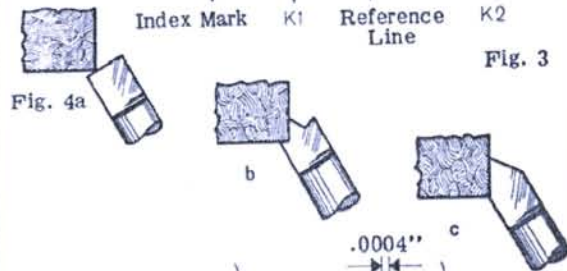

Fig. 4a
7. During grinding slowly return stop screw G to advance the work fixture past the wheel; at the same time continuously rotate the collet bearing back and forth between the stops, the rotation being through 180°. This ensures uniform stock removal (see Figs. 4a, b, c). Uniform stock removal will protect the cutter from overheating.